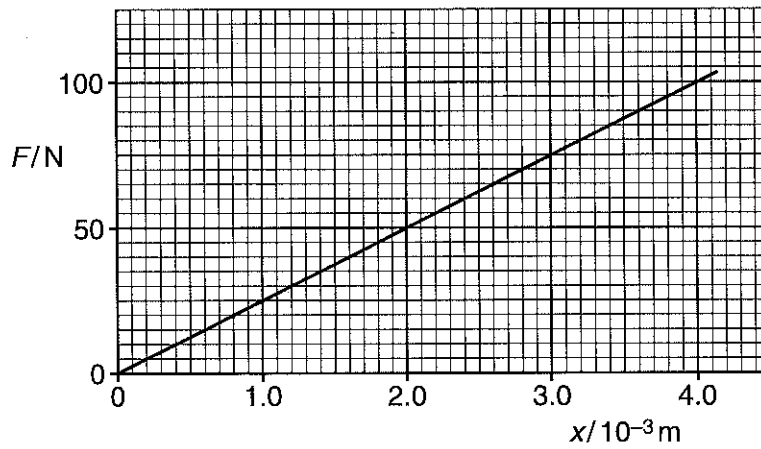

Fig. 8.1
- 8 A sample of wire is tested in the laboratory. Fig. 8.1 shows the force, F against extension, x graph for this wire.
- (d) The test is repeated for another wire made from the same material, having the same length but **half** the diameter. Explain how the force against extension graph for this wire will differ from the graph of Fig. 8.1.